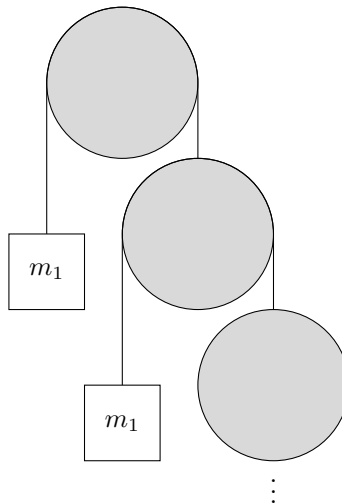

Figure 4: An infinite series of Atwood machines.
4. Consider an infinite series of Atwood machines, as depicted in Figure 4 (the bottom of the page). Determine the acceleration of the top mass of the construct. Hint: there are two ways to go about doing this. One way is far simpler than the other.